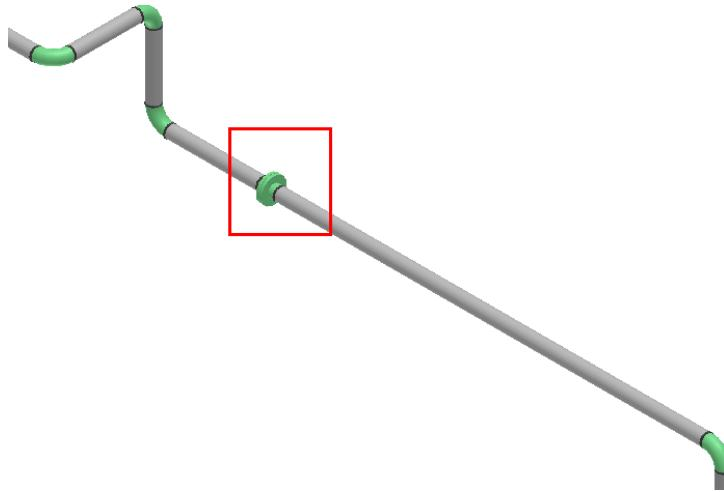

Figure 10.8: Placed Takedown Joint in a Pipe Run
- Click on the graphic view to accept the position of a split on the pipe run. The highlighted portion in Figure 10.8 shows takedown joint (flange set) placed in a pipe run.